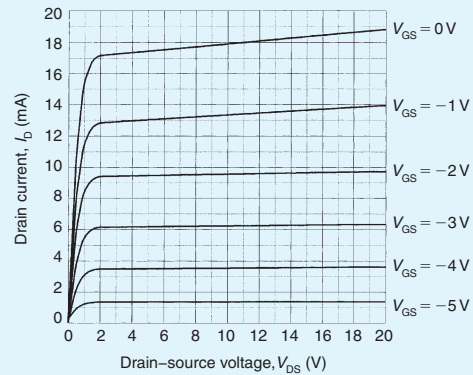

Figure 12.28
- The output characteristics of a JFET are shown in Fig. 12.28. If this device is used in an amplifier circuit operating from an 18 V supply with a gate-source bias voltage of -3 V and a load resistance of $900\text{ }\Omega$, determine (a) the quiescent values of drain-source voltage and drain current, (b) the peak-peak